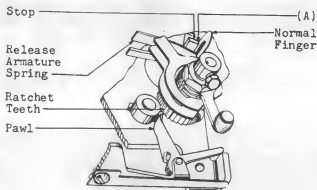

Fig. 8—Position of Normal Finger
- (b) **Fig. 8(A):** The normal finger shall rest against the stop when the selector is in the normal position, and the free end of the normal finger shall overlap the stop by